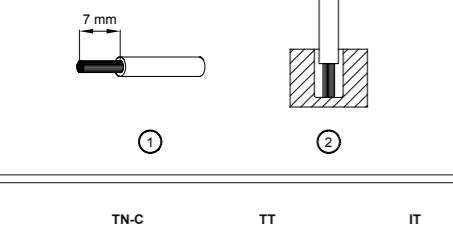

Figure 5
You can use flexible (stranded wire) or solid cables with cross section 0.52-3.3mm² (AWG 20-12) and torque of 4.67kgf.cm (4.05lb in). To secure reliable and shock proof connections, the stripping length should be 7 mm (see Fig. 5 (1)). Please ensure that wires are fully inserted into the connecting terminals as shown in Fig. 5 (2).